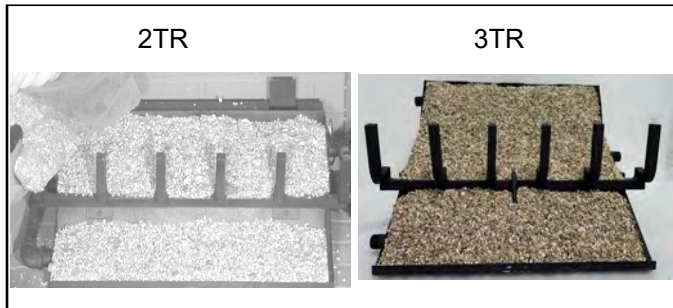

Figure 7.6 Vermiculite Placement
2. Level the vermiculite from side to side to ensure an even flame pattern. See Figure 7.6.